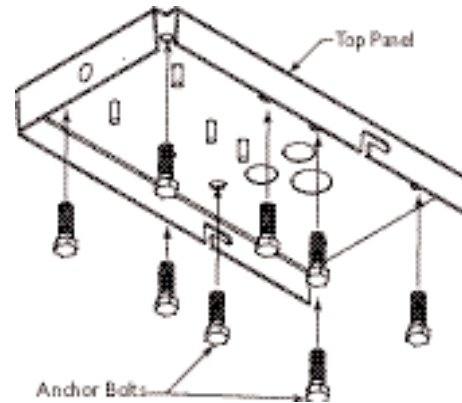

Figure 7 Mounting Top Panel
5. Mount the top panel by installing the anchor bolts. See **Figure 7**.